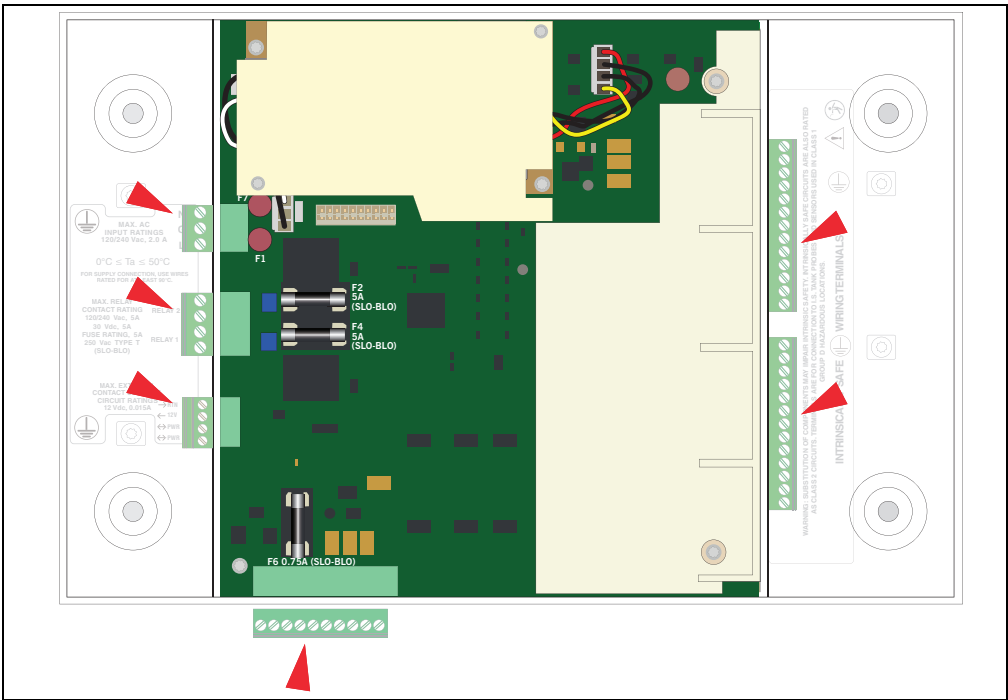

Figure 8. Remove all plugs attached to USIOM board
3. Remove all plugs connected to the USIOM board (see Figure 8).